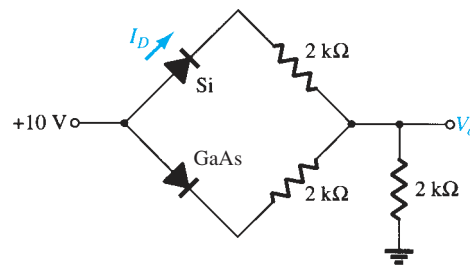

FIG. 2.163
*13. Determine V_o and I_D for the network of Fig. 2.163.